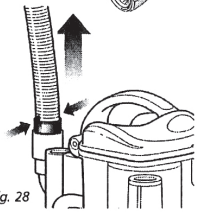

Fig. 28
- Detach the stretch hose from the back of the portable Lift-Away® canister by squeezing the tabs together and pulling up. (Fig. 28) Straighten out the hose and look inside for blockages.